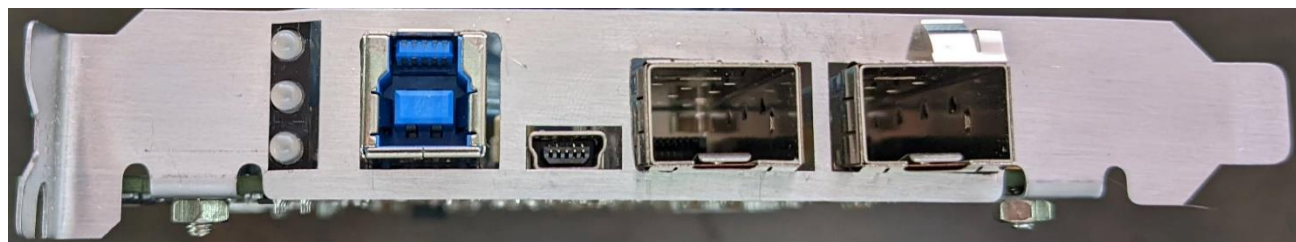

Figure 3.16. CertusPro-NX Programming Done LED
- For CertusPro NX devices, refer to Figure 3.16.
For CertusPro-NX devices, the programming done LED lights up in green if configuration is successful. The LED is located as shown in Figure 3.16.